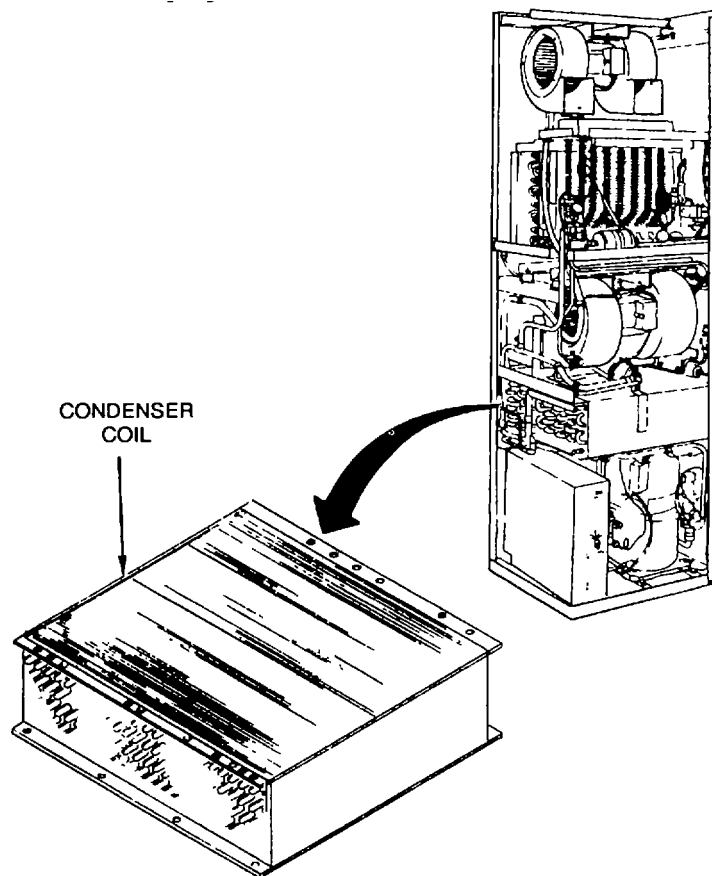

Figure 4-49. Condenser coil cleaning
- (1) Disconnect air conditioner input power at source,
- (2) Remove compressor section panel (paragraph 4.24); and
- (3) Remove condenser fan section panel (paragraph 4.23).
- a. Check for accumulated dirt (see fig 4-49). Clean if dirt is evident.